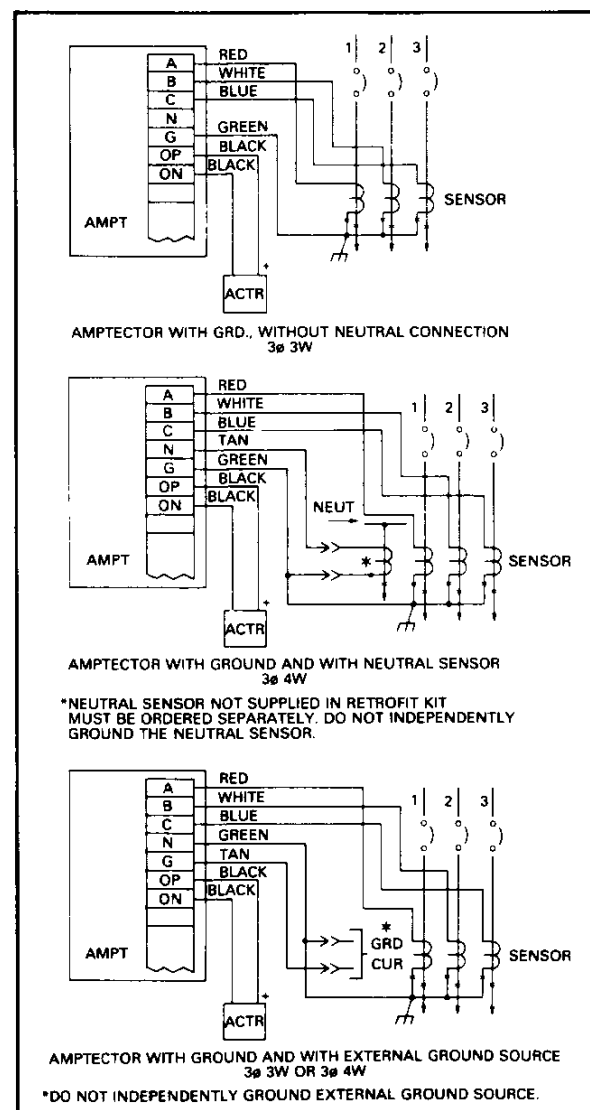

Fig. 5
All the Amprectors IA in retrofit kits are supplied with a ground element. The ground fault protection is provided by energizing this element with the residual of the currents (from the three properly polarized phase sensors in a 3-phase 3-wire system, or from the three phase sensors plus a neutral sensor in a 3-phase 4-wire system, or from a separate ground current sensor.) The Amprector IA can also be wired so that there is no ground fault protection (see Fig. 5).
1. Acquaint yourself with the wiring scheme, Fig. 5.
9. Thread the amptector end leads from the back of the door through the grommet and the amptector. Connect the leads per wiring diagram, Fig. 5.